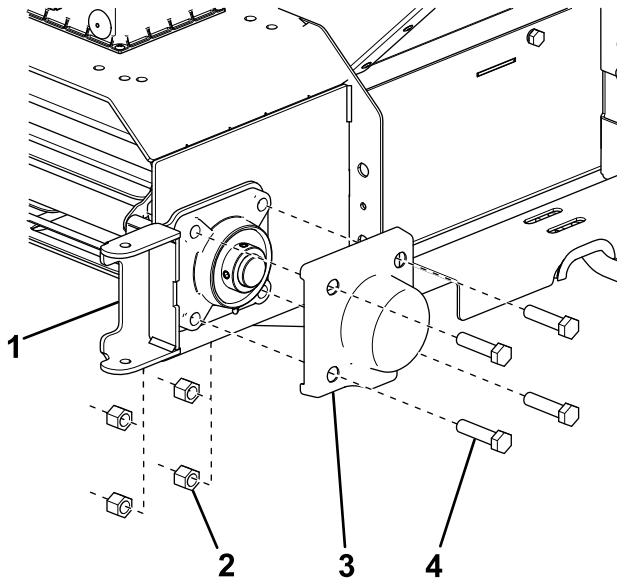

Figure 17
7. Remove and discard the 4 bolts and nuts securing the right spinner-assembly pin-lock and bearing cover to the pintle chain assembly (Figure 17).